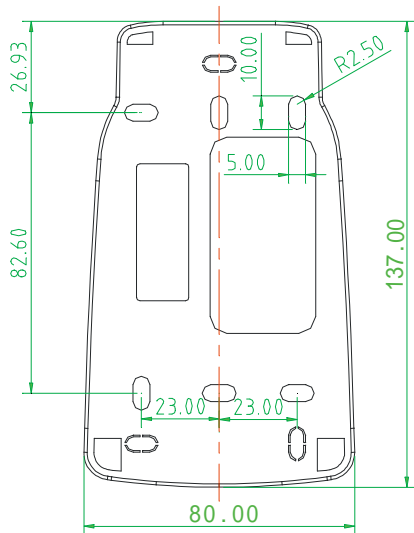

Fig. 1
3.1 Follow Fig. 1 to drill mounting hole on the wall which the device will install (no need the mounting hole if mounting on the standard electrical box).